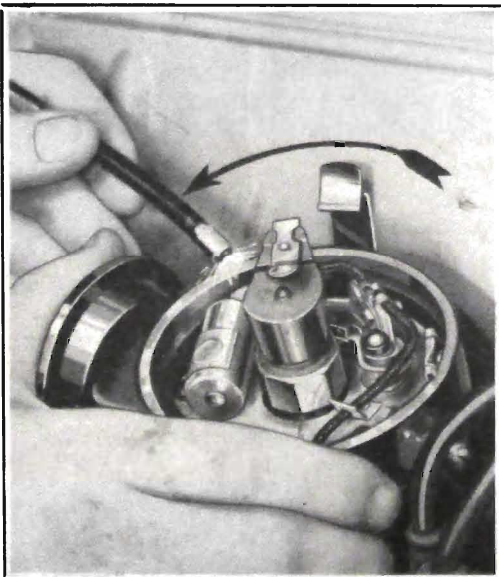

Fig. 12-33. Checking Timing
- Turn on ignition and remove the center high tension lead from the distributor cap and hold in position to form a gap with distributor housing. See Fig. 12-33.